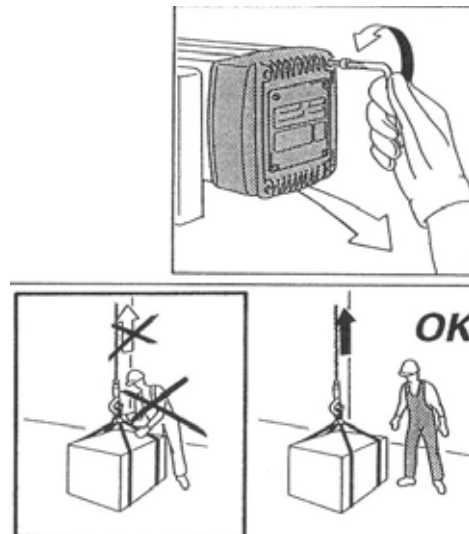

fig.102
6. Completely unscrew the four screws of the gear reducer cover and remove it. (fig.102)